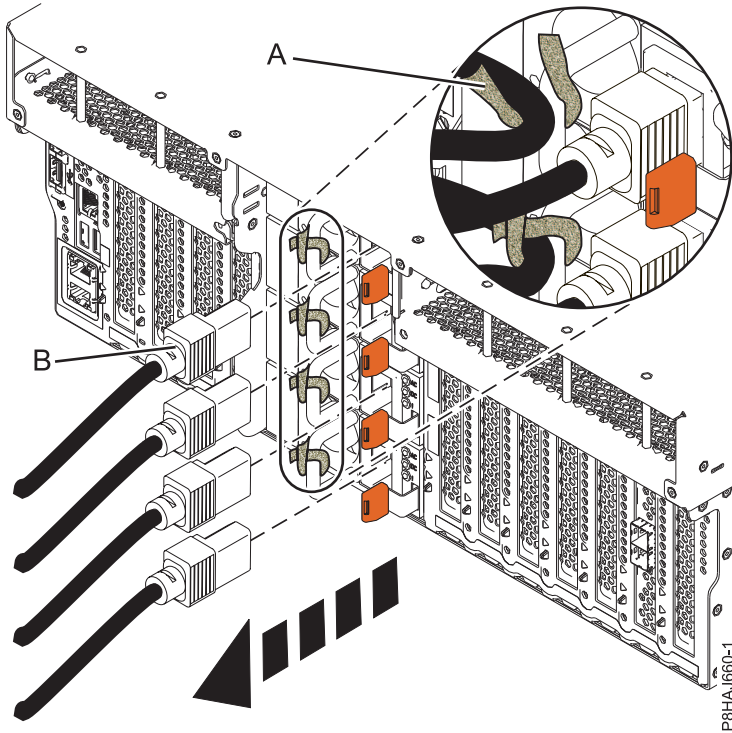
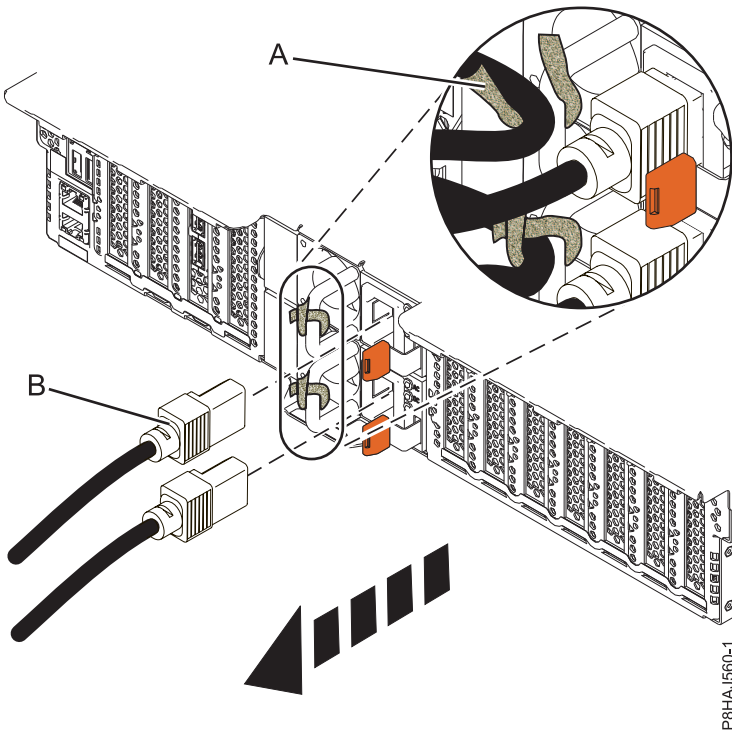
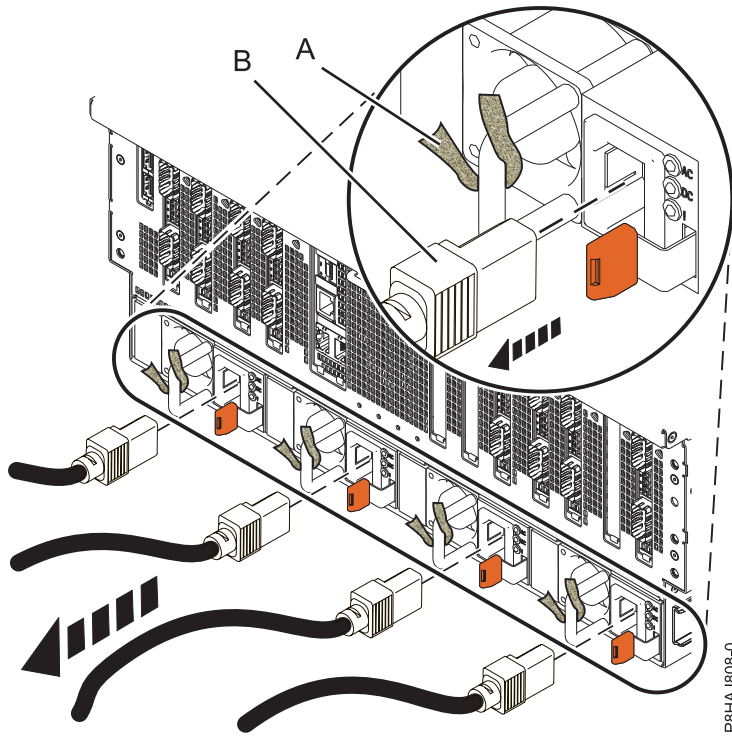

Figure 53. Removing the power cords from an 8247-42L, 8286-41A, or 8286-42A system
Figure 54. Removing the power cords from an 5148-21L, 5148-22L, 8247-21L, 8247-22L, 8284-21A, or 8284-22A system
Figure 55. Removing the power cords from an 8408-44E or 8408-E8E system
3. Disconnect the power cords (B) from the system unit. See Figure 53 on page 64, Figure 54 on page 64, or Figure 55 on page 65 or depending on the type of your system.